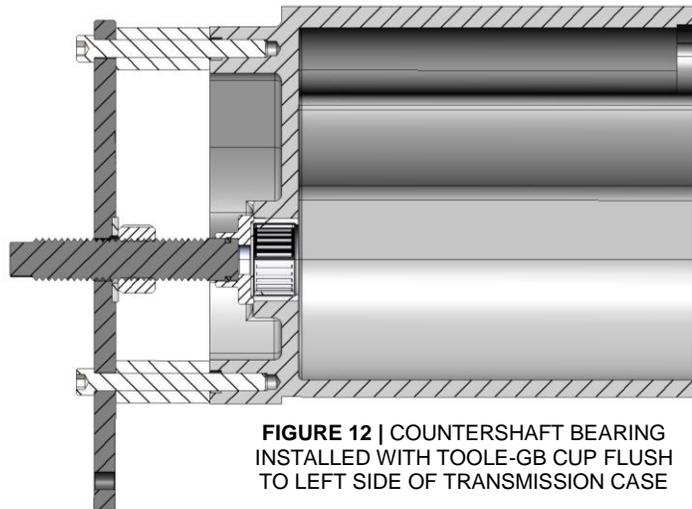

FIGURE 12 | COUNTERSHAFT BEARING INSTALLED WITH TOOLE-GB CUP FLUSH TO LEFT SIDE OF TRANSMISSION CASE
- With the new bearing registered squarely in the case bore, hold the threaded shaft (2) with a 9/16" combo wrench or 5/16" Allen wrench. Tighten the nut (5) until the cup (7) is completely bottomed out on the case to ensure that the bearing is installed at the correct depth; see figure 12. Bearing should be slightly above the surface of the case.